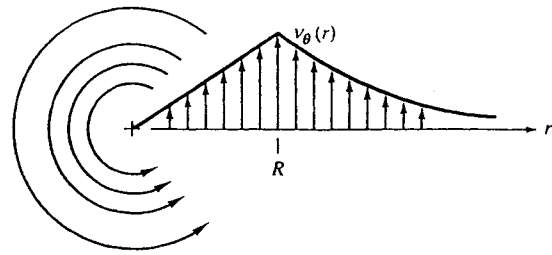

Fig. P8.14
**8.14** A tornado may be modeled as the circulating flow shown in Fig. P8.14, with  $v_r = v_z = 0$  and  $v_\theta(r)$  such that
**8.15** A category-3 hurricane on the Saffir-Simpson scale ([www.encyclopedia.com](http://www.encyclopedia.com)) has a maximum velocity of 130 mi/h. Let the match-point radius be  $R = 18$  km (see Fig. P8.14). Assuming sea-level standard conditions at large  $r$ , (a) find the minimum pressure; (b) find the pressure at the match-point; and (c) show that both minimum and match-point pressures are independent of  $R$ .